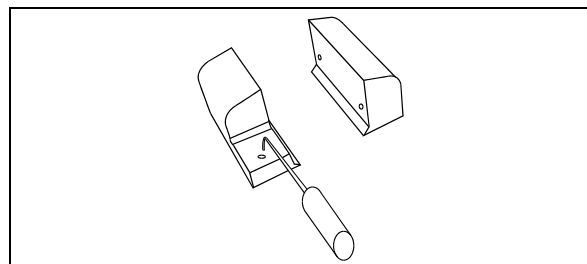

FIGURE 26: REMOVE THE UPPER ACETAL PLASTIC BLOCKS WITH A PICKING TOOL
3. Remove the 2 upper acetal plastic blocks. They have holes so they can be removed with a picking tool (FIGURE 26) from outside the vehicle. If the acetal plastic blocks are too hard to reach, slightly extend the slide-out, the movement of the slide-out should bring them out.
1. For both sides of the slide-out, remove the 2 upper acetal plastic blocks shown on FIGURE 26 (refer to section 13).